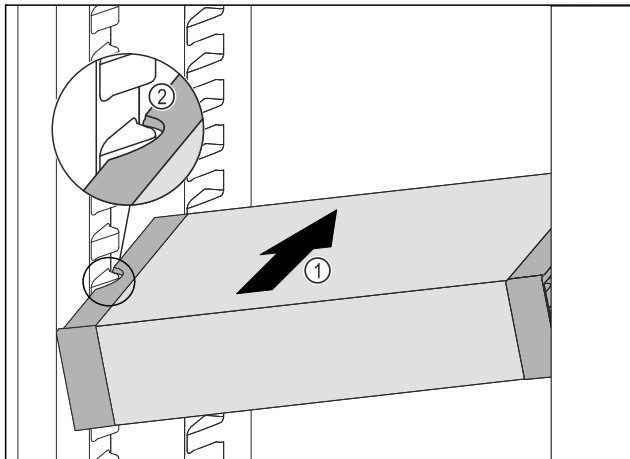

Fig. 190
- Insert the VarioSafe into the fridge section at an angle Fig. 190 (1) until the recesses in the side Fig. 190 (2) of the VarioSafe are at the level of the support rib in the fridge section.